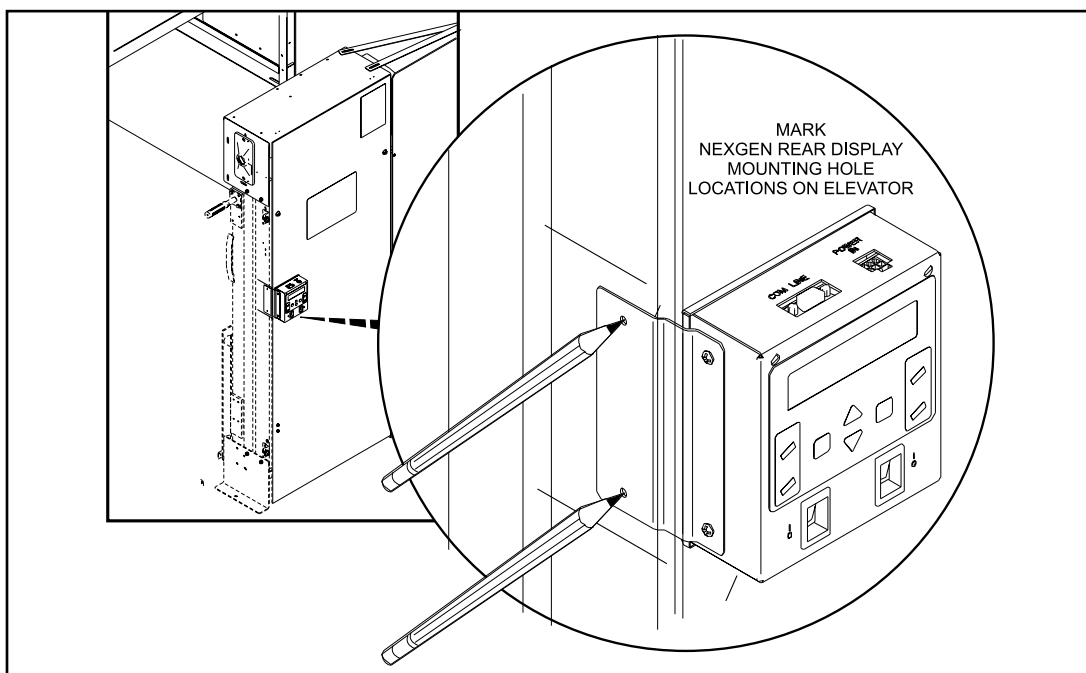

Figure 4
2. Center Remote display between lines marked on side of elevator in *step 1* and mark location of mounting holes. Refer to *Figure 4*.